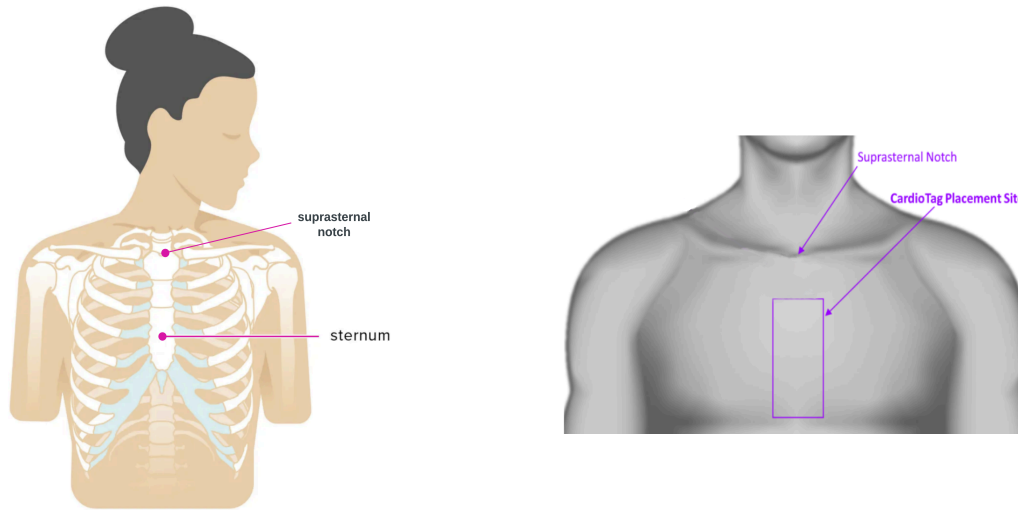
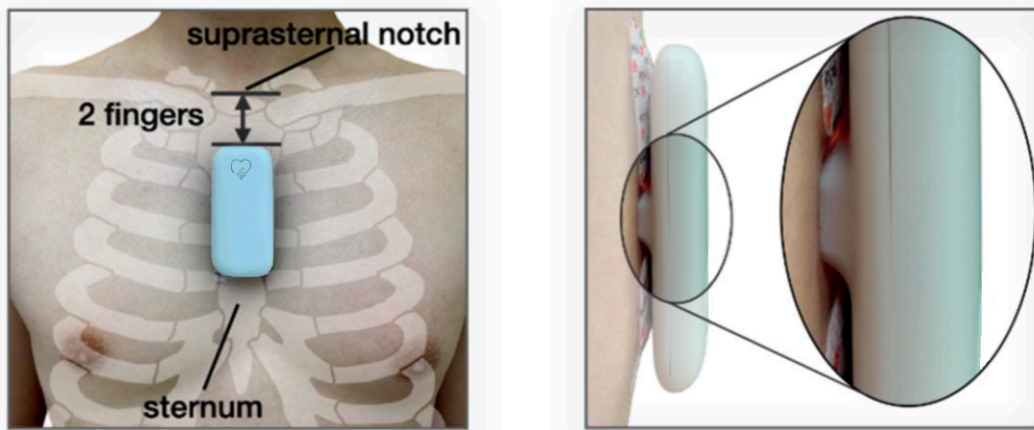

Figure 7: Suprasternal notch and sternum, anatomy view
Figure 8: Estimate of CardioTag Placement Site, and correct Placement of the CardioTag on the chest via electrodes
- If body hair is present on the patient’s sternum, shave the hair on the sternum completely (see Figure 7 for anatomical location).
- Use a 70% isopropyl alcohol wipe to clean the CardioTag placement site area on the patient’s skin (Figure 8). Allow the area to dry completely. Do not apply lotions, oils, or perfumes.
- Using Figure 7 as an anatomical reference, place the CardioTag device perpendicular on the center of the patient's sternum with the upper edge of the top electrode two finger widths below the bottom of the suprasternal notch, as shown in Figure 8. Make sure the heart logo is upright. Press the CardioTag firmly on the sternum to make sure it is attached.
- Have the patient remain still for two (2) minutes, or 120 seconds, while the CardioTag is recording. Once the measurement session has completed, the device LED will turn solid green.